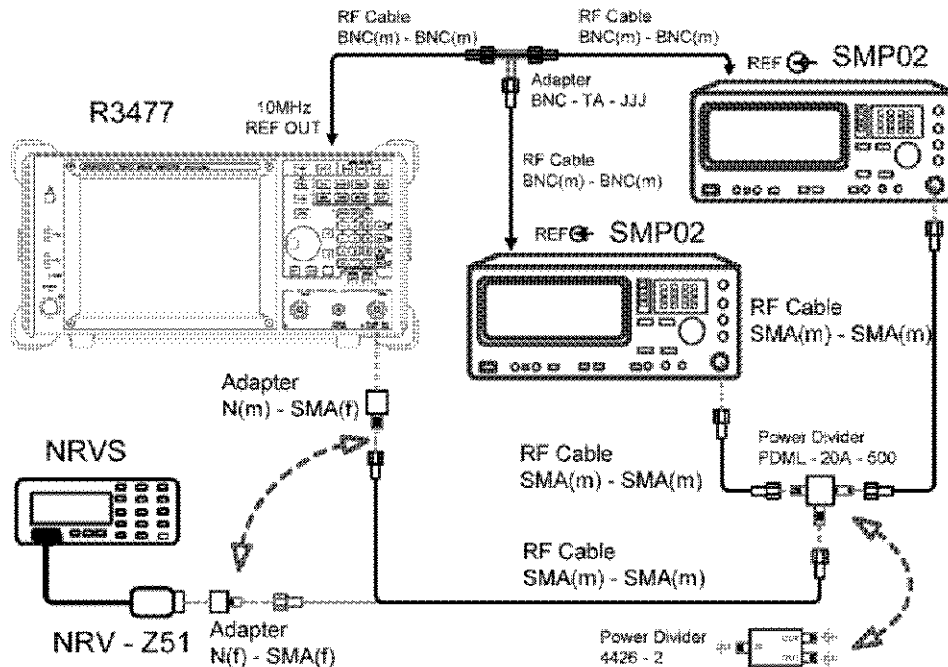

Figure 2-14 1 dB Gain Compression Test
1. Connect the instruments as shown in Figure 2-14.